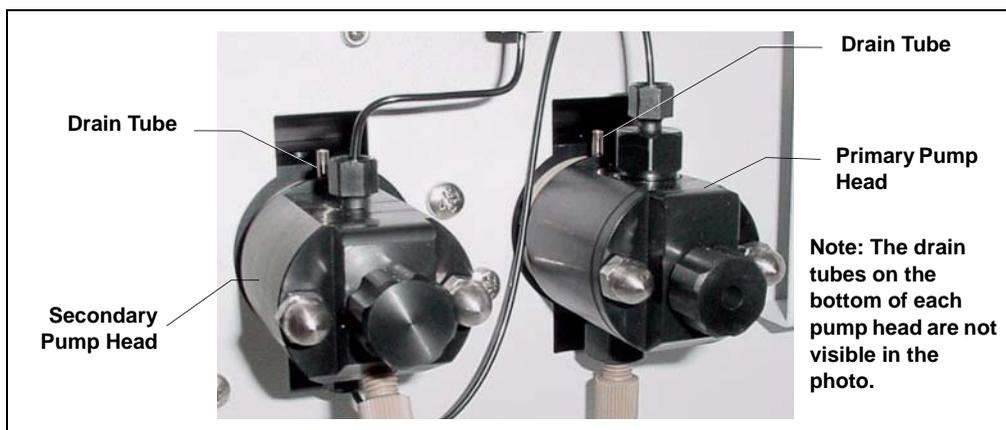
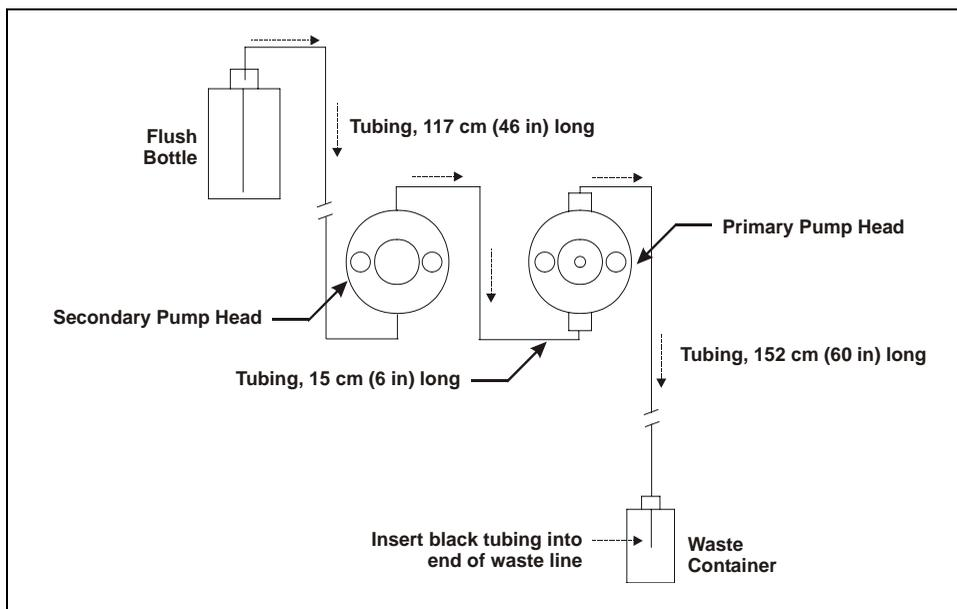

Figure B-48. Primary and Secondary Pump Heads with Drain Tubes
Figure B-49. Piston Seal Wash Flow Schematic
4. Install the tubing as follows (see Figure B-48 and Figure B-49):